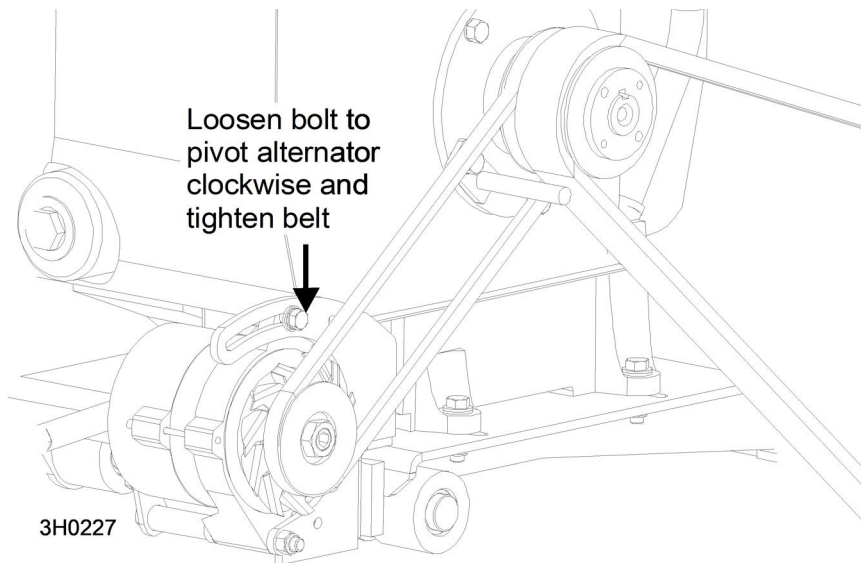

FIG. 3-1
1. Adjust the alternator belt as needed. See Fig. 3-1.